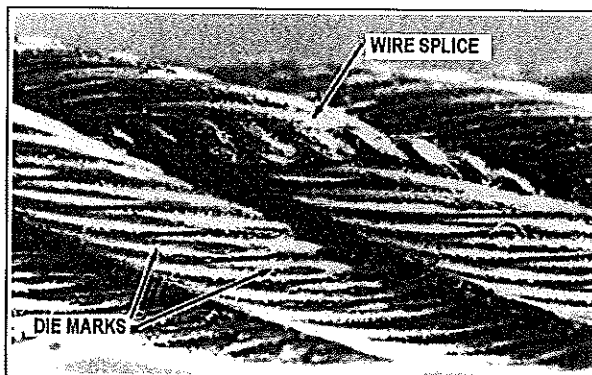

FIGURE 7-22. Manufacturer's wire splice.
**7-151. WIRE SPLICES.** Standard manufacturing splices have been mistaken for defects in the cable because individual wire end splices were visible after assembly of a finished cable length. In some instances, the process of twisting outer strands around the core strand may also slightly flatten individual outer wires, particularly in the area of a wire splice. This flattening is the result of die-sizing the cable, and does not affect the strength of the cable. These conditions (as shown in figure 7-22) are normal, and are not a cause for cable rejection.